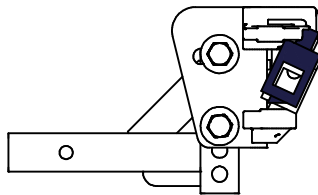

Figure 6
9. Hold the spring bar (3) perpendicular to the shank (2). Insert the lower trunnion pin into the lower pocket of the head assembly (See figure 6). Rotate the spring bar so the upper trunnion pin passes through the entrance slot in the upper pocket of the head assembly.